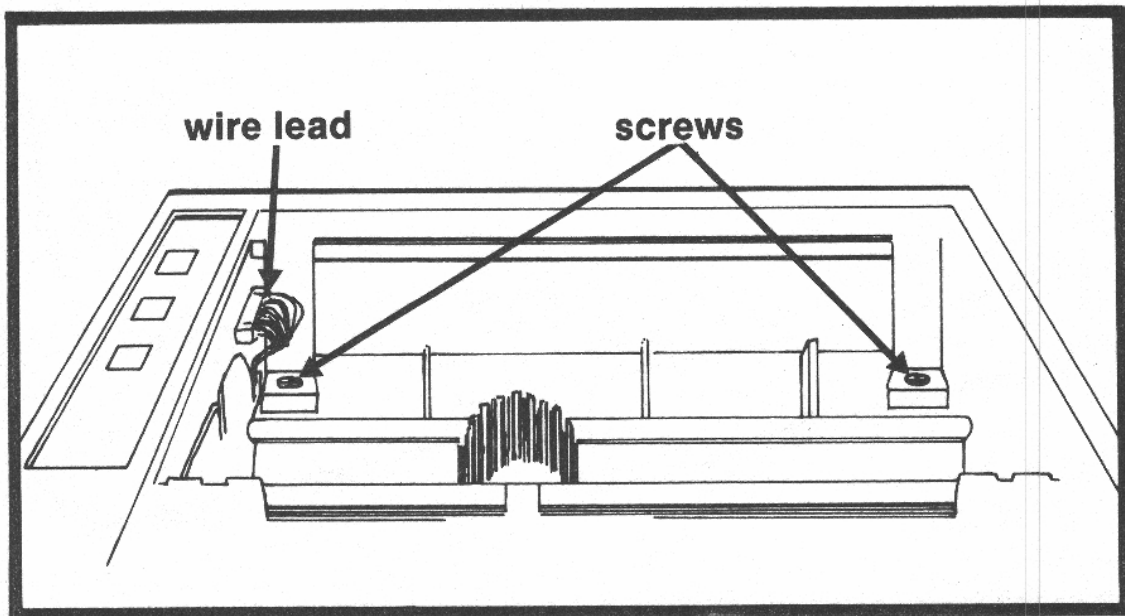

FIGURE 13.3. Location of screws attaching upper case and wire lead to the control panel
- Step 7.** Remove the two screws that attach the upper case to the rest of the printer. The screws require a Phillips screwdriver. Take care to not misplace the screws. Figure 13.3 depicts the position of the screws. It may be necessary to remove the ribbon cartridge before removing the screws.
- Step 8.** Detatch the wires leading to the control panel by gently pulling out. The position of these wires is indicated in figure 13.3.